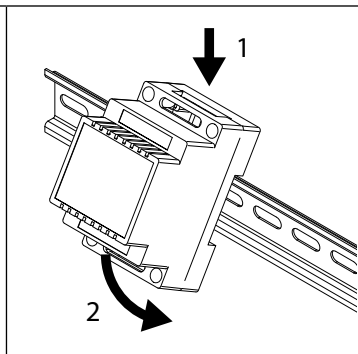
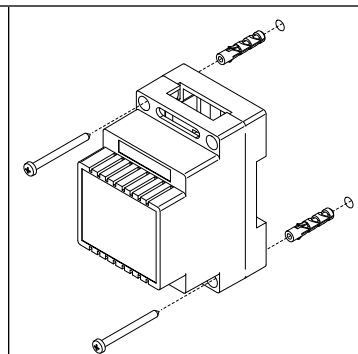

Fig. 4
Fig. 5
2. Fix the power supply to a DIN rail (Fig. 4) or directly to the wall using two expansion type screws (Fig. 5);